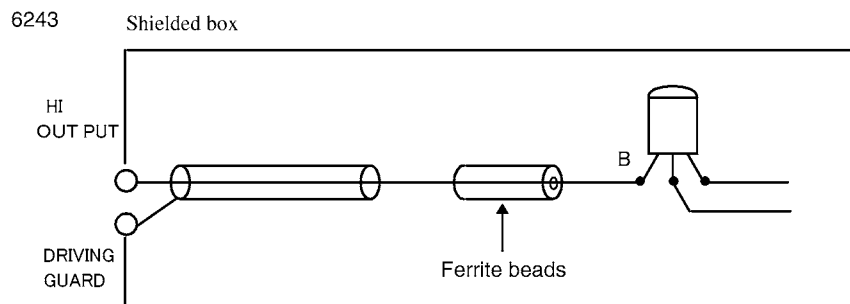

Figure 4-5 Device Oscillation Prevention
- Insert a ferrite bead near the device (Figure 4-5).